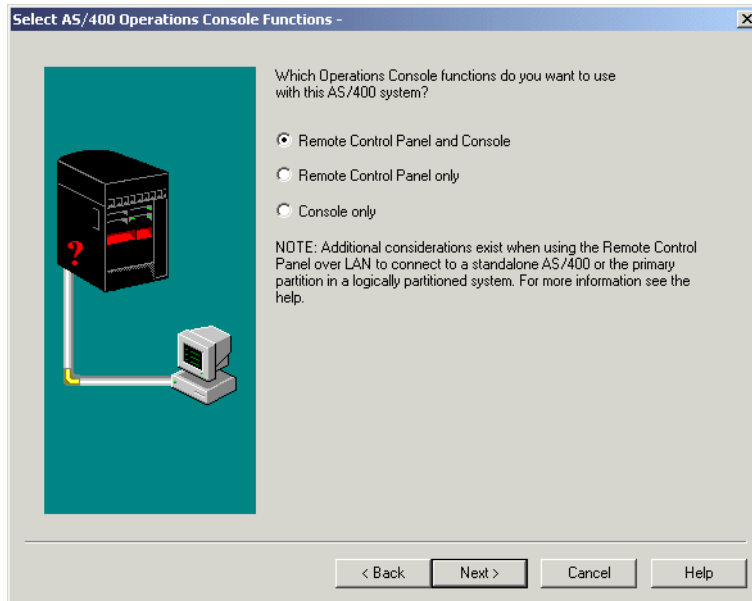

Figure 7-24 Select AS/400 Operations Console Functions screen
5. The display in Figure 7-24 shows the options that are available for Operations Console. Here you can select the console, the remote control panel, or both. In this example, we click **Remote Control Panel and Console**. Then click **Next**.